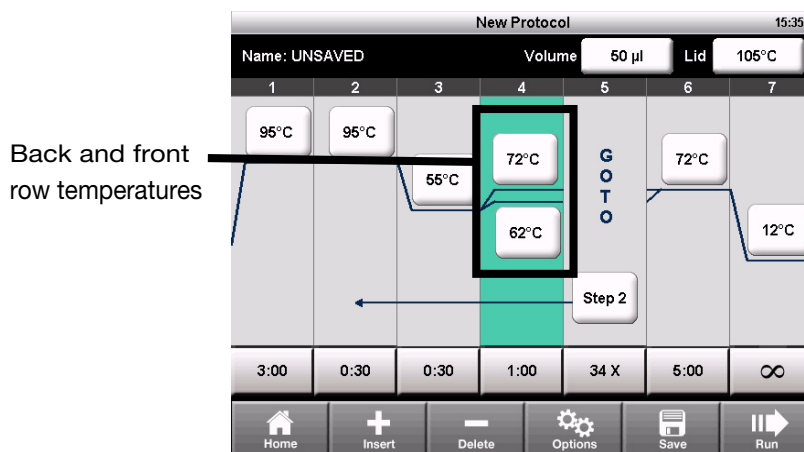

Figure 11. The protocol has a gradient from 62 to 72°C.
4. The front and back row temperatures of the gradient are displayed as two lines in the thermal profile (Figure 11).